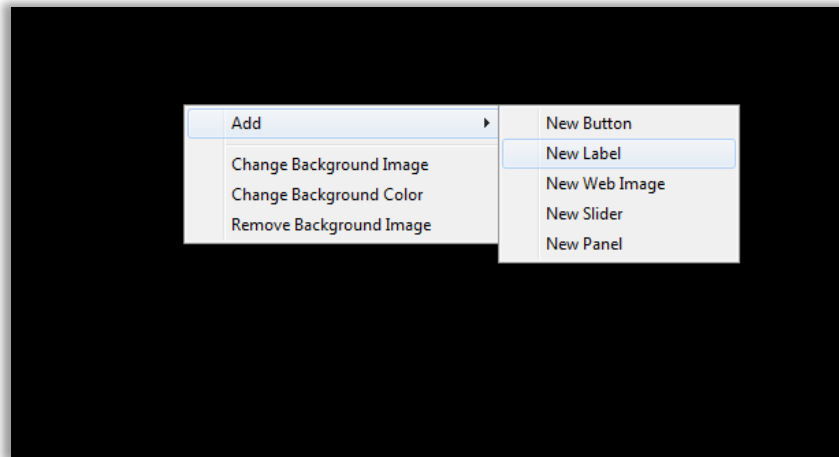

Figure 14 - GUI Page Editor: Adding a new label
- Right click on the background and “Add > New Label” *Refer to Figure 14*